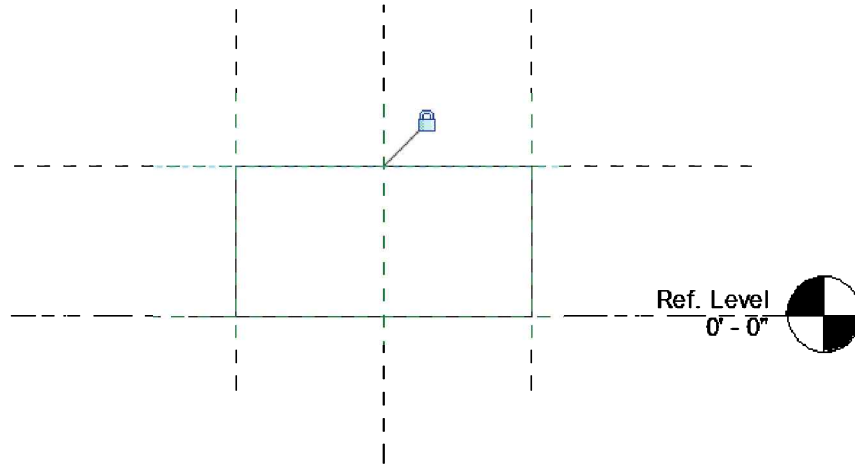

FIGURE 15-2.14 Aligning 3D geometry to reference planes
25. **Align** and **Lock** the top of the box, which is 1'-0" high, to the top *Reference Plane* (Figure 15-2.14).